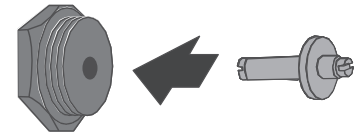

Figure 8
- 5** Reverse the retainer pin and snap it back into the regulator cap (see Figure 8).